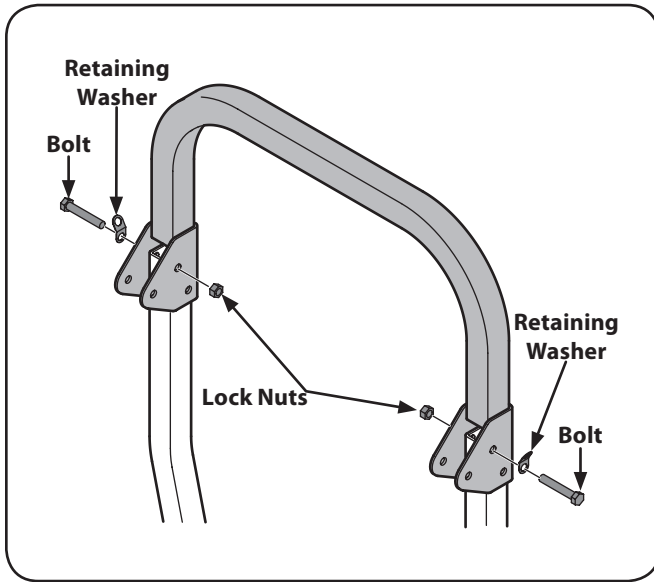

Figure 3-5
4. Install the upper ROPS section onto the lower ROPS "posts". Install the bolts, retaining washers and lock nuts. See Figure 3-5.